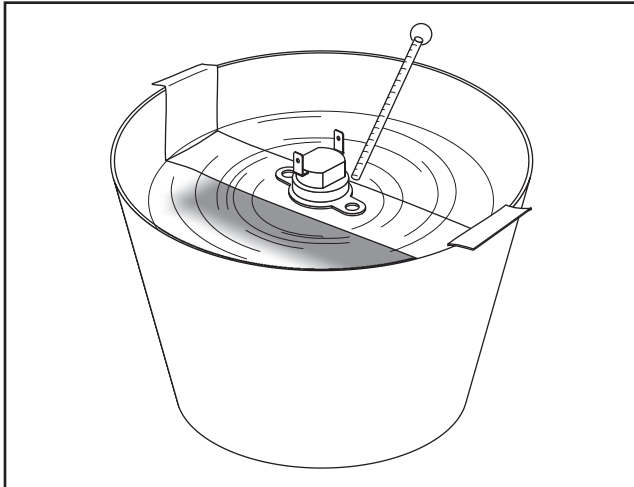

Figure 7-46. – Testing Oil Temperature Switch
2. Remove the switch and place its sensing tip into oil (Figure 7-46). Place a thermometer into the oil.